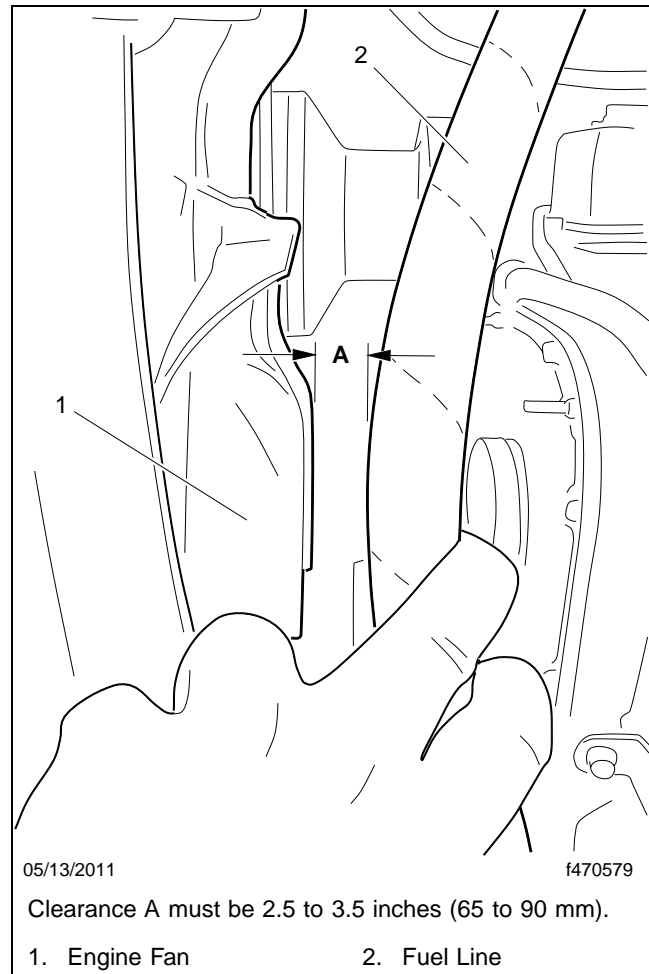

Fig. 14, Checking Fuel Line to Fan Clearance
15. Check the clearance between the fuel line and the engine fan. It must be 2.5 to 3.5 inches (65 to 90 mm). See **Fig. 14**.